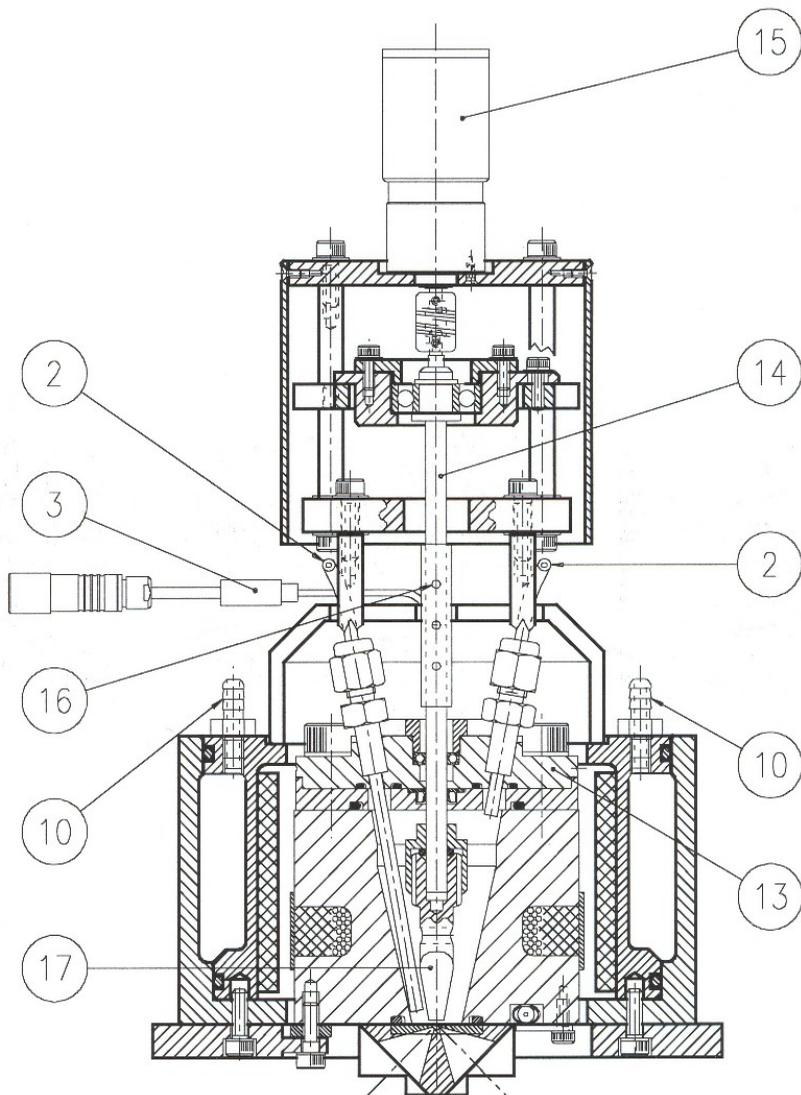

Figure 6. Cut away view of the stirring mechanism top section option on the Reaction Cell Top Plate.
The Reaction Cell Top Plate can be offered as an optional stirring version. The standard top section pressure plate (1) is replaced by an alternative pressure plate (13) that incorporates a stirring rod mechanism (14) in addition to the monitoring thermocouple (3) and the inlet and outlet tubes (2). (See Figure 6). The stirring mechanism assists in the mixing of reactants within the reaction chamber and so can allow for a more homogenous mixture to be monitored for any non-flow experimentation within the reaction chamber. Similar to the standard version of Reaction Cell Top Plate, the stirring version can be supplied in stainless steel or hastalloy material.